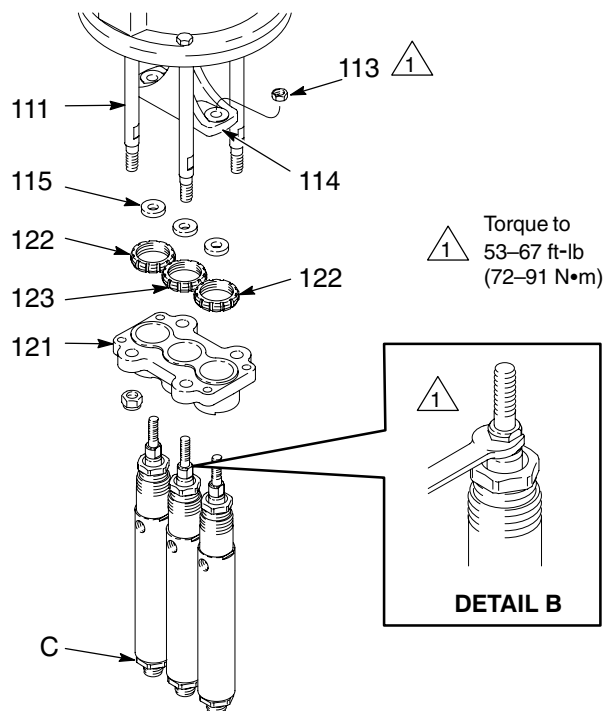

Fig. 19
1. Remove the locknuts (113) from the top of the yoke (114) of the two outer displacement rods. See Fig. 19. Unscrew the outer locknuts (122) from the top of the tie plate (123) on the two displacement pumps. Use a screwdriver and hammer to loosen.
**NOTE:** The tie rods (111) shown in Fig. 19 are removed from the tie plate (121) for clarity only and do not require removal.
2. Remove the two outer pumps from the tie plate. Remove the washers (115) from the rods of each pump.
3. Using a wrench on the flats of the center pump's displacement rod, screw the rod out of the yoke (114). See Detail B in Fig. 19. Remove the pump from the yoke (114) then the washer (115) from the rod on the pump.